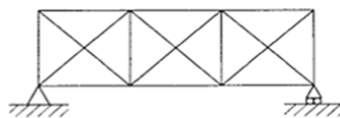

Figure 2
- (b) Determine the degrees of statical and kinematic indeterminacy of the beam ABC shown in Figure 2. [7M]